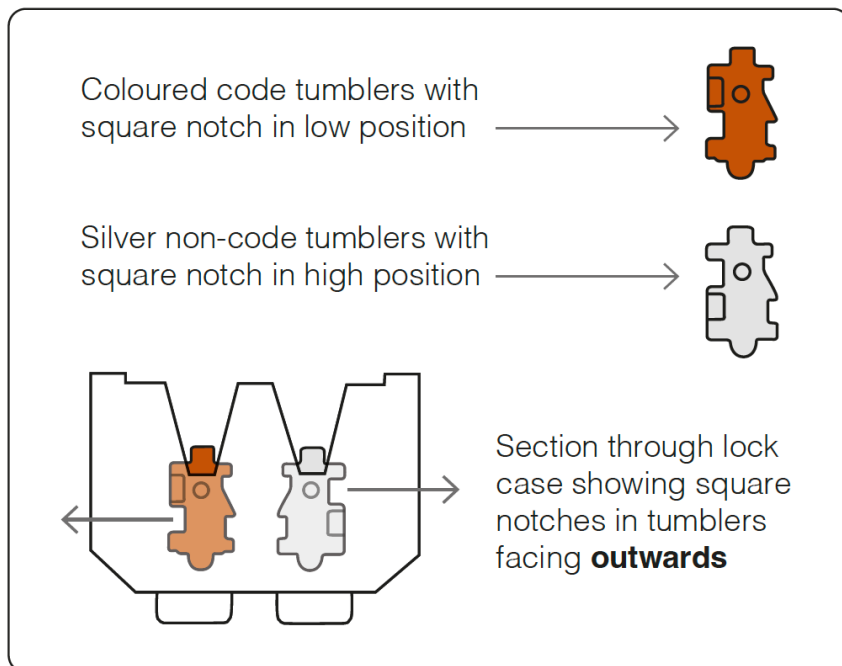

Fig.1
4. Hold the lock in your hand, press and hold the 'C' button. Keeping the 'C' button depressed use tweezers or a pair of long nosed pliers to reposition the tumblers to correspond with your new code. The square notches of **all** tumblers **must** face outwards, with the square tips **at the top**: See Fig.1. **Do not** force the tumblers in. Note: Holding the 'C' button depressed whilst removing or replacing the tumblers is **ESSENTIAL** to avoid damaging the internal mechanism. **DO NOT** attempt to reposition the 'C' tumbler.